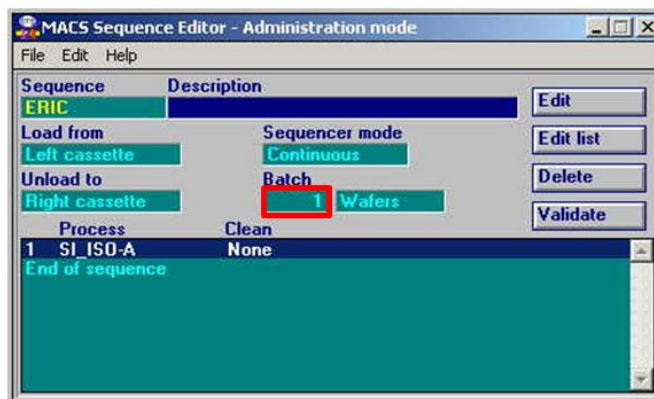

Fig.12: *Sequence Editor* window.
5.2.3 In the *Sequence Editor* window (Fig.12) check or adjust the batch size, the number of wafers to be processed: it should correspond to the number of wafers present in the left cassette. Note that empty slots in the cassette, even between wafers, will be ignored.